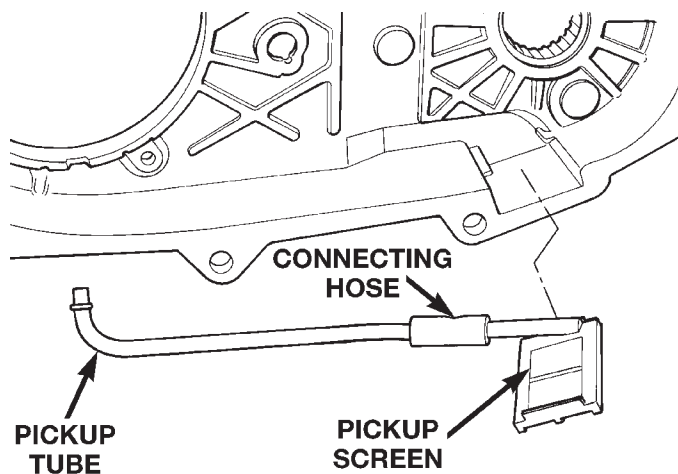

Fig. 20 Oil Pickup Tube Removal
- (5) Remove oil pickup tube from rear case (Fig. 20).